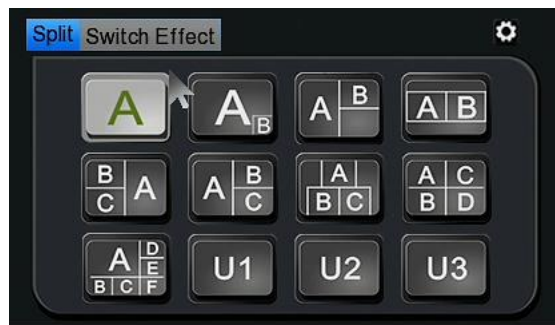

Figure 22 Split-screen Processing
**1) Split-screen Processing**-as the figure 22,the PGM,PVW and PGM2 can select the types of *split-screen* to display. Split-screen modes provide 12 types as single screen,two screen PIP, two screen on corner, three screens, quad screen, 6 screens and U1/U2/U3(customized mode).